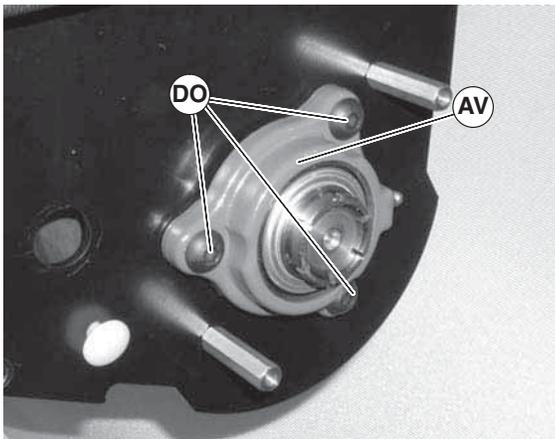

Figure 111
4. Remove the three (3) mounting screws (Figure 111, item DO).
5. Remove and replace housing assembly (Figure 111, item AV).
6. Tighten three (3) mounting screws (Figure 111, item DO) to 200 in-lbs (22.5 N-m).